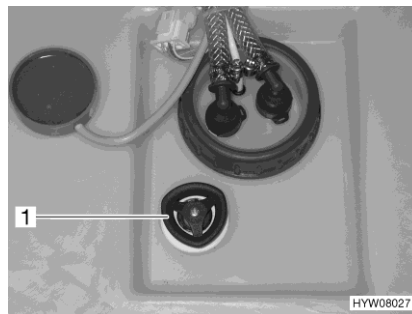

Fig. 158 Rotary handle (water tank)
Opening: ■ Turn the rotary handle (Fig. 158,1) on the water tank 3/4 of a turn in an anticlockwise direction. Excess water will drain away leaving approx. 20 litres in the tank.
Closing: ■ Turn the rotary handle (Fig. 158,1) on the water tank in a clockwise direction as far as it will go.
- Turn the rotary handle (Fig. 158,1) on the water tank in an anticlockwise direction as far as possible beyond the resistance to fully open the drainage opening.